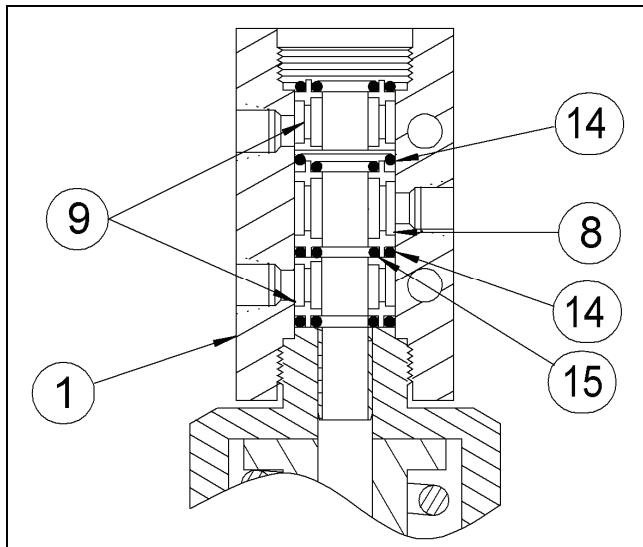

Figure 6
16. Install new inner o-rings (item 15), without lube, and lubricated outer ring (14) in the second end sleeve (item 9). Slide the end sleeve into the bore of the body (item 1) with the o-ring grooves out toward the cylinder threads. Insert the sleeve until the outer o-ring is about to enter the bore. (See Figure 6)